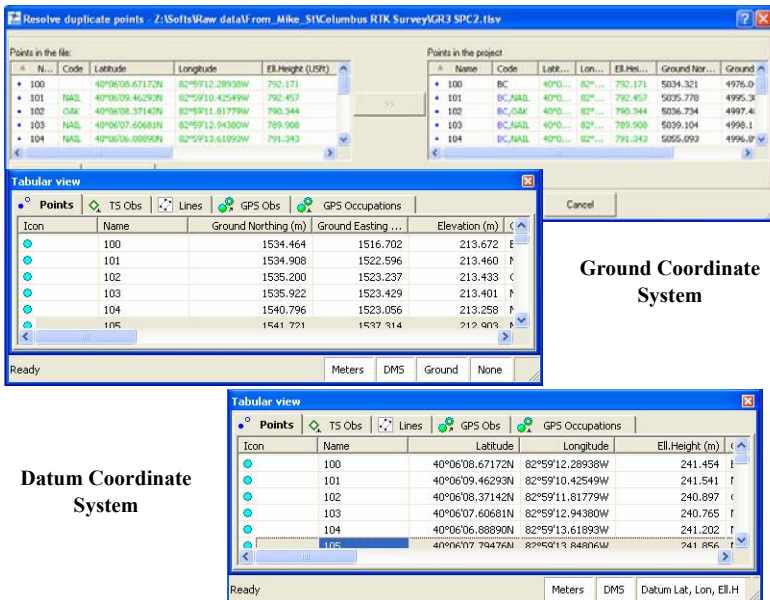

Figure 5-23. Ground/Datum Coordinate System
*If the coordinates of the imported and existing points in the current job are in the Datum/Grid and Ground coordinates systems (or vice versa) and the job does not have transformation/localization parameters, Spectrum Survey Office will display both lists of the coordinates without any conversion (as is) in the right pane of the Resolve Duplicate Points window. After clicking OK, the points with identical names will have the coordinates in both coordinate system (Figure 5-23 on page 5-19).*